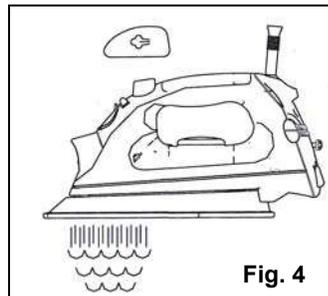

Fig. 4
3. With the iron in a horizontal position, press the burst of steam button several times to prime the pump. See Figure 4.